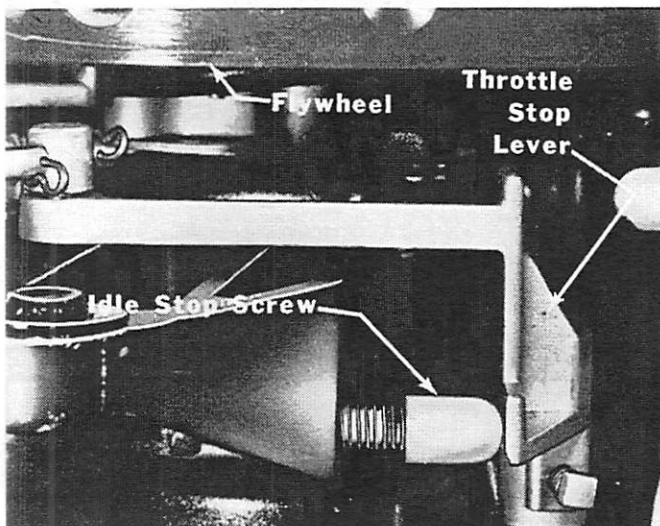

Figure 12. Throttle Stop Lever Touching Idle Stop Screw
3. Move throttle lever on engine forward until throttle stop lever touches idle stop screw lightly and hold lever in this position. (Figure 12)
9. Check to see that throttle stop lever is touching stop screw lightly. (Figure 12) If necessary, re-adjust brass barrel on cable to accomplish correct